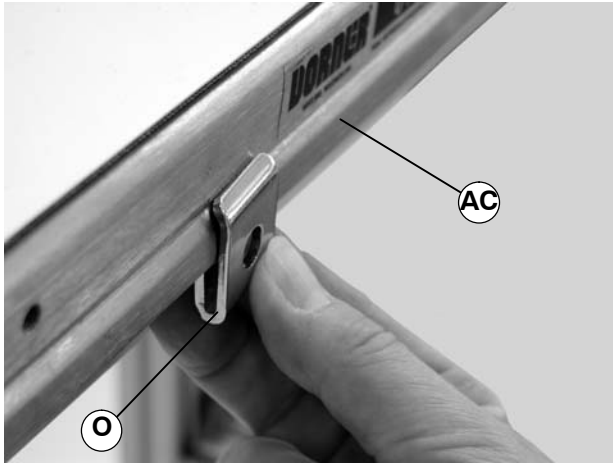

Figure 9
- a. Place mounting clip (O of Figure 9) onto conveyor quick clamp mounting rail (AC).